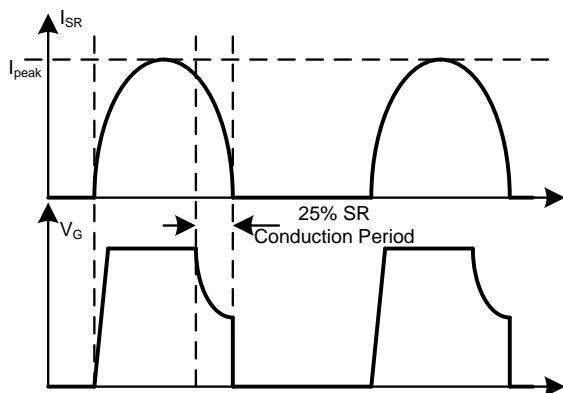

Figure 11: Synchronous Rectification Typical Waveform in LLC
Figure 11 shows the typical waveform of the LLC on the secondary side. To achieve a fairly high usage of the MOSFET's $R_{DS(ON)}$, it is expected that the MOSFET driver voltage is kept at the maximum level until the last 25% of the SR conduction period. Calculate V_{DS} with Equation (2):